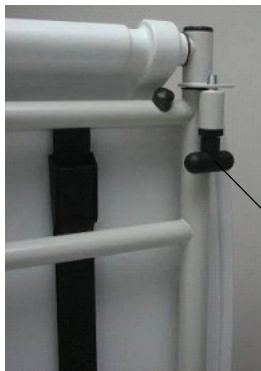

Figure 97: Tray support lock
1. Pull down the tray support pole lock (G) (Figure 97 on page 102).